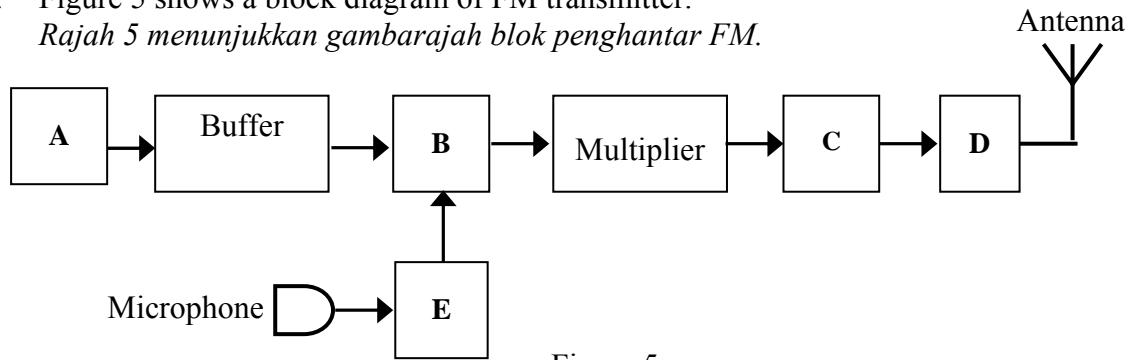

Figure 5
13. Figure 5 shows a block diagram of FM transmitter.